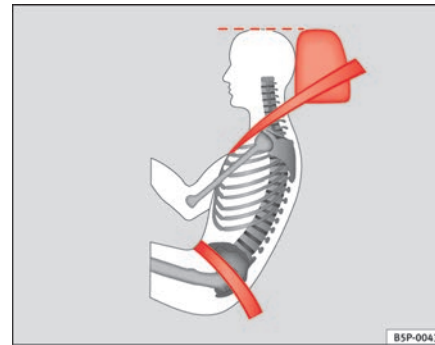

Fig. 13 Correct belt web and head restraint positions, viewed from side ▶
- The lap part of the seat belt must lie across the pelvis, never across the stomach. The seat belt must lie flat and snugly on the pelvis ⇒ page 24, fig. 13. Pull the belt tight if necessary to take up any slack.